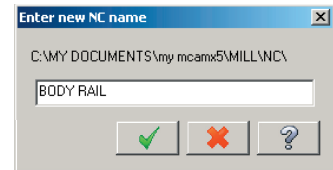

Fig. 4
Step 2. Click OK  in the NC name dialog, **Fig. 4**.